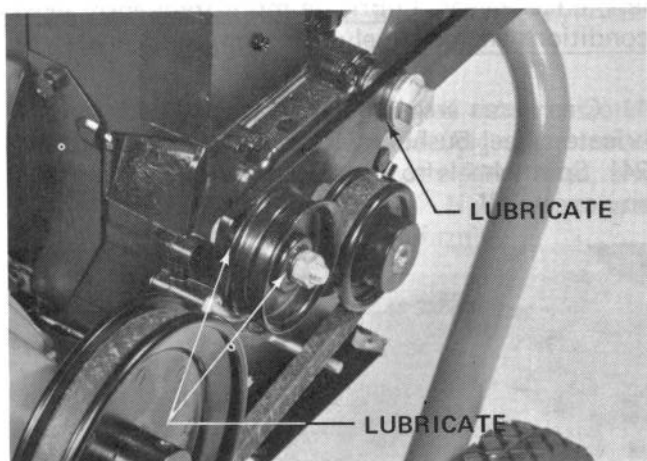

Figure 26
3. Clean area around idler pulley and on back of idler pulley. Lubricate idler pulley hub and pivot with a few drops of SAE 30 oil (Fig. 26). Spin idler pulley to distribute oil; wipe up any excess oil.